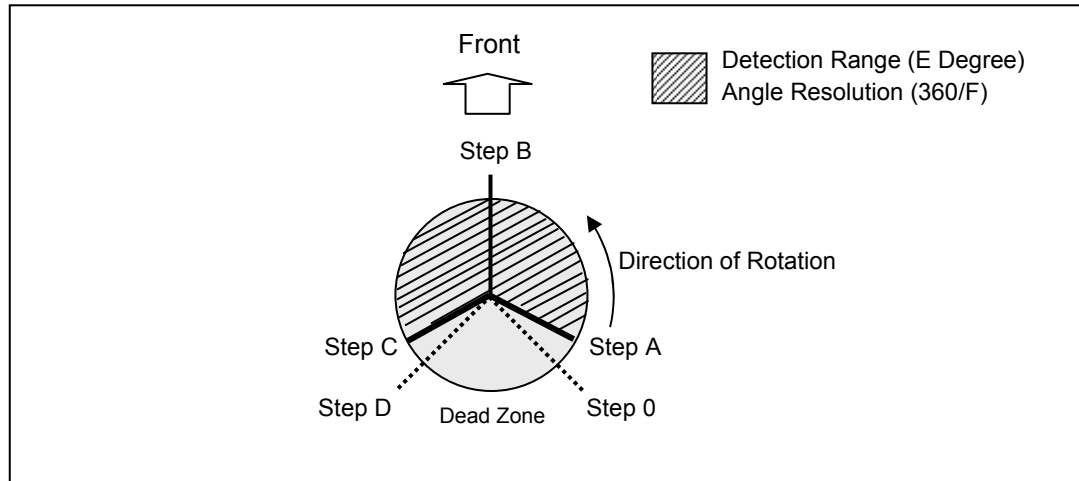

Figure 1: Measurement Parameters
Figure 1 shows sensor's measurement details. The scanner rotates in an anti-clockwise direction when viewed from top. Detection Range (E) is maximum angle the sensor scans for measurement. Angular Resolution is defined as the 360degree divided by the Slit Division (F).